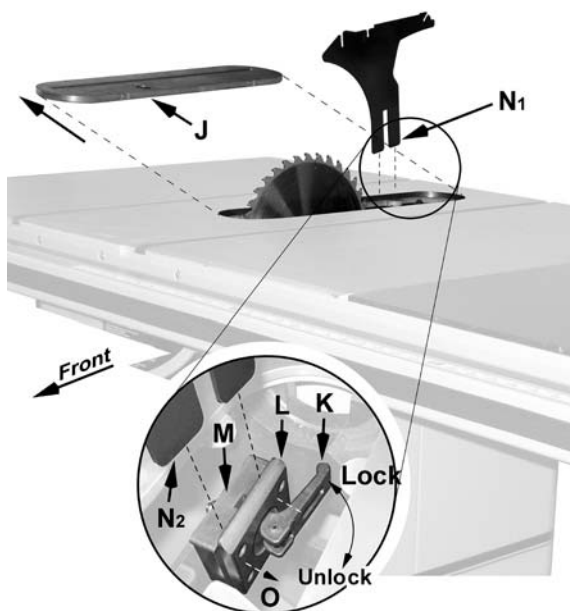

Figure 9
3. Press the arbor lock (D) in the direction shown by the arrow to engage it into the slot in the arbor (C). At the same time remove the arbor nut (A); loosen with a 32mm wrench if necessary.
4. Remove the collar (B).
5. Install the blade, making sure the cutting teeth at the top of the blade point toward the front of the saw. If unsure, refer to Figure 9 for the proper blade orientation.
6. Replace the collar (B) and arbor nut (A).
7. Engage the arbor lock (D) and tighten the nut (A) with a 32mm wrench.
Referring to Figure 9:
2. Remove the table insert (J).
3. Located inside the table and accessible through the insert opening (Figure 9 inset), place the quick-release clamp lock handle (K) in the *unlock* position.
4. The *floating clamp block* (L) is spring loaded and will move away (O) from the *fixed block* (M), leaving a gap.
5. Insert the bottom of the *riving knife* (N₁, N₂) all the way into the gap between the *clamp blocks* (L, M), then lock the handle (K).
6. Replace the *insert* (J) back on the table. The saw blade and riving knife should protrude through the slot in the insert.
The clamping blocks (L, M, Figure 9) are adjusted at the factory and no further adjustment of the blade guard and riving knife assembly should be necessary. However, **proper alignment is very important**. Before operating the table saw, read the *Riving Knife Adjustment* section (page 16) to verify and follow the adjustment procedure if necessary.
Figure 9 repeated